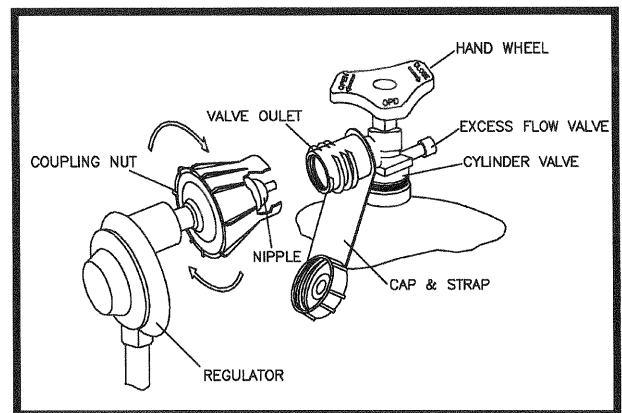

Figure 4 Regulator/LP Tank Assembly
5. Remove the protective cap from the Tank Valve Outlet on the **LP Gas Tank**. Inspect the entire valve assembly for any damage, dirt or debris. Remove dirt or debris or replace LP Gas Tank if the valve assembly is damaged. (See Figure 4 Regulator/LP Tank Assembly)
6. Inspect the Coupling Nut and Nipple of the **Grill Regulator with Fuel Supply Hose** for any damage, dirt or debris. Remove dirt or debris or replace the Regulator with Fuel Supply Hose, if damaged, with a TEC specified replacement part. (See Figure 4)